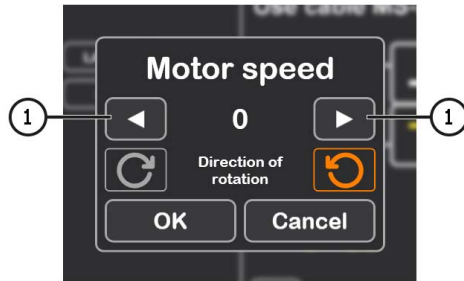

Figure 22
- 3.1. After activating the diagnostics mode, a preliminary alternator check window will open, see Figure 22.
4. After clicking the "Automatic test" button, a preliminary alternator check window will appear, see Figure 22.